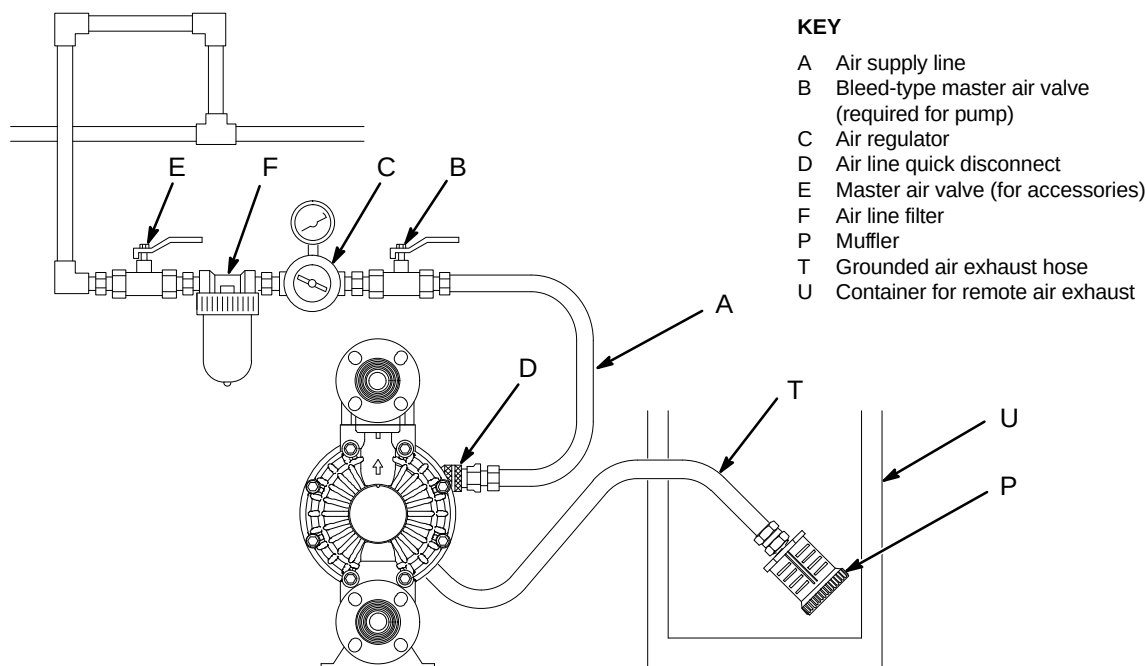

Fig. 6
Diaphragm failure will cause the fluid being pumped to exhaust with the air. Place an appropriate container at the end of the air exhaust line to catch the fluid. See Fig. 6.
1. Remove the muffler (P) from the pump air exhaust port.
2. Install a grounded air exhaust hose (T) and connect the muffler (P) to the other end of the hose. The minimum size for the air exhaust hose is 19 mm ID. If a hose longer than 4.57 m is required, use a larger diameter hose. Avoid sharp bends or kinks in the hose. See Fig. 6.
3. Place a container (U) at the end of the air exhaust line to catch fluid in case a diaphragm ruptures.